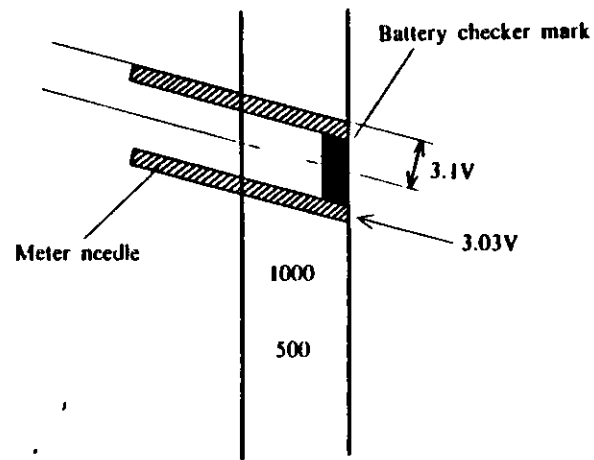

Fig. 27
- b) Adjust checker with VR1, turning the release holder clockwise, so that the meter needle enters the battery checker of Fig. 27.
- 2) The indication of the battery used is $1.5V \times 2 = 3.0V$, but as the actual capacity is 3.1V, checker adjustment is 3.03V and must be adjusted at the position as shown in Fig. 27.